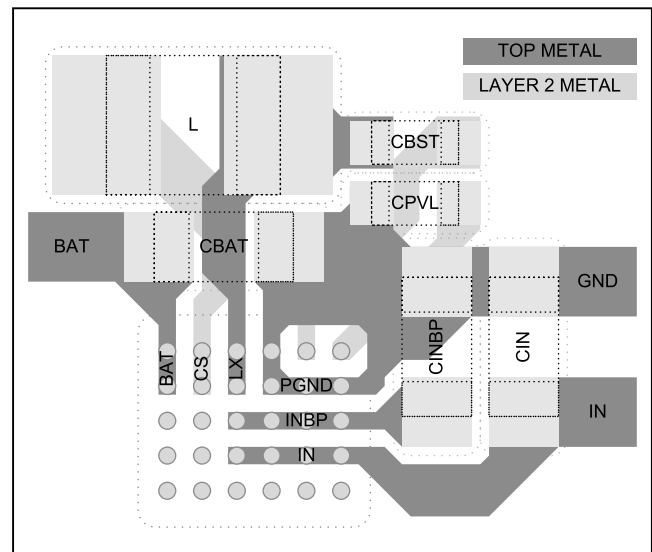
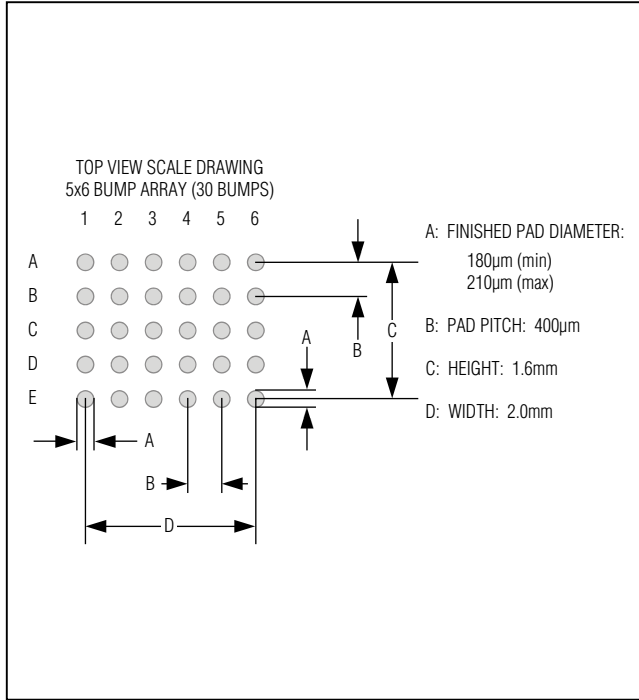
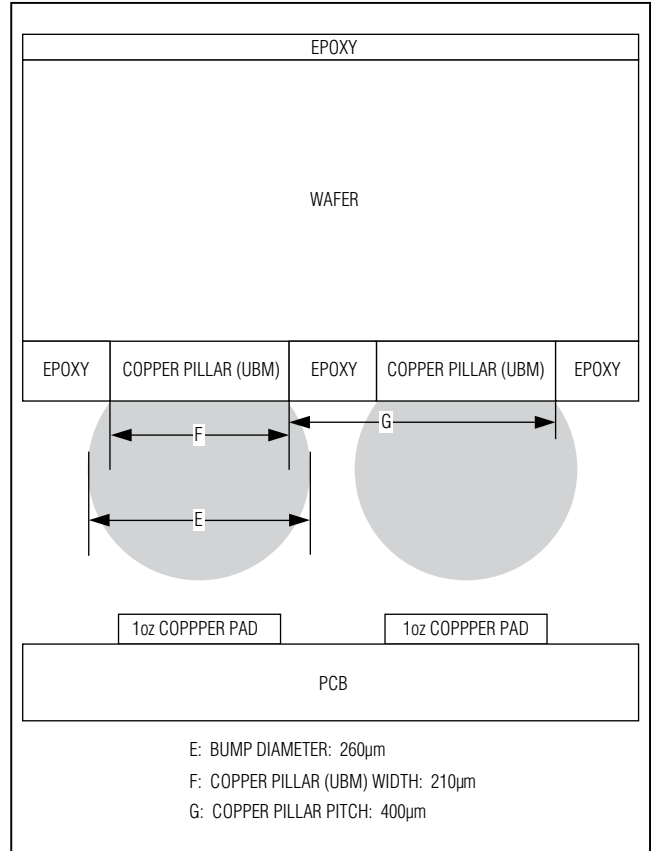

Figure 14. Power PCB Layout Example
Figure 15. Recommended Land Pattern
Figure 16. Bump Cross Section and Copper Pillar Detail
Figure 15 shows the recommended land pattern for the MAX8900\_. Figure 16 shows the cross section of the MAX8900\_'s bump with detail of the under-bump metal (UBM). The diameter of each pad in the land pattern is close to the diameter of the UBM. This land pattern to UBM relationship is important to get the proper reflow of each solder bump.
Careful printed circuit layout is important for minimizing ground bounce and noise. Figure 14 is an example layout of the critical power components for the MAX8900\_. The arrangement of the components that are not shown in Figure 14 is less critical. Refer to the MAX8900 Evaluation Kit for a complete PCB layout example. Use the following
- 5) In Figure 14, the CS node is connected to the second layer of metal with vias. Use low-impedance vias that are capable of handling 1.5A of current. Also, keep the routing inductor current path on layer 2 just underneath the inductor current path on layer 1 to minimize impedance.
- 6) Both CBST and CPVL deliver current pulses for the MAX8900's MOSFET drivers. These components should be placed as shown in Figure 14 to minimize parasitic impedance.
In Figure 14, many of the top layer bump pads are connected together in top metal. When connecting bumps together with top layer metal, the solder mask must define the pads from 180 $\mu$ m to 210 $\mu$ m as shown in Figure 15. When using solder mask defined pads, please double check the solder mask openings on the PCB Gerber files before ordering boards as some PCB layout tools have configuration settings that automatically oversize solder mask openings. Also, explain in the PCB fabrication notes that the solder mask is not to be modified. Occasionally, optimization tools are used at the PCB fabrication house that modify solder masks. Layouts that do not use solder mask defined pads are possible. When using these layouts, adhere to the recommendations A through G above.